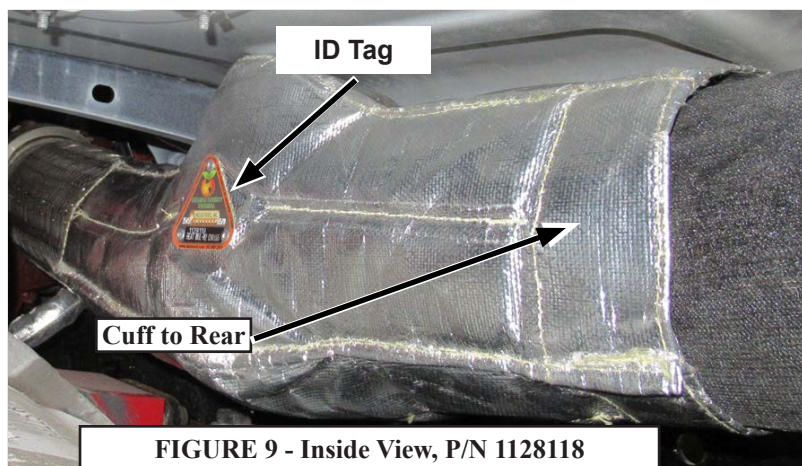

FIGURE 9 - Inside View, P/N 1128118
4. The part number ID tag and installation aid tag should be at the 9 o'clock index position when looking from the rear of the pipe. See Figures 5 and 6 for the P/N11311546 installation and Figure 9 for the P/N1128118 installation.